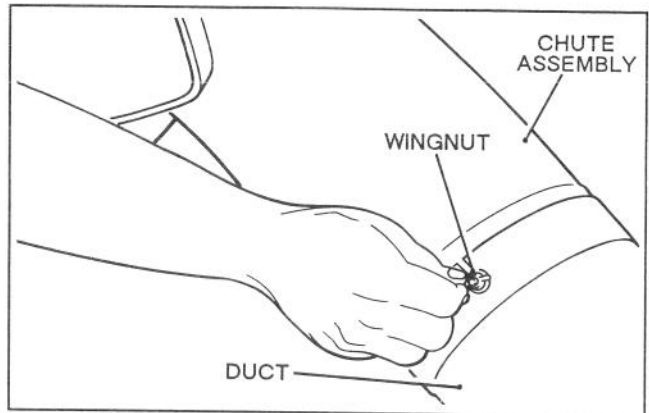

Figure 8
1. Sliding chute and duct together, line up holes so they can be secured (Fig.8).
2. From inside of chute, push carriage bolt through aligned slots and secure with wingnut. Repeat procedure on opposite side of assembly (Fig.8).